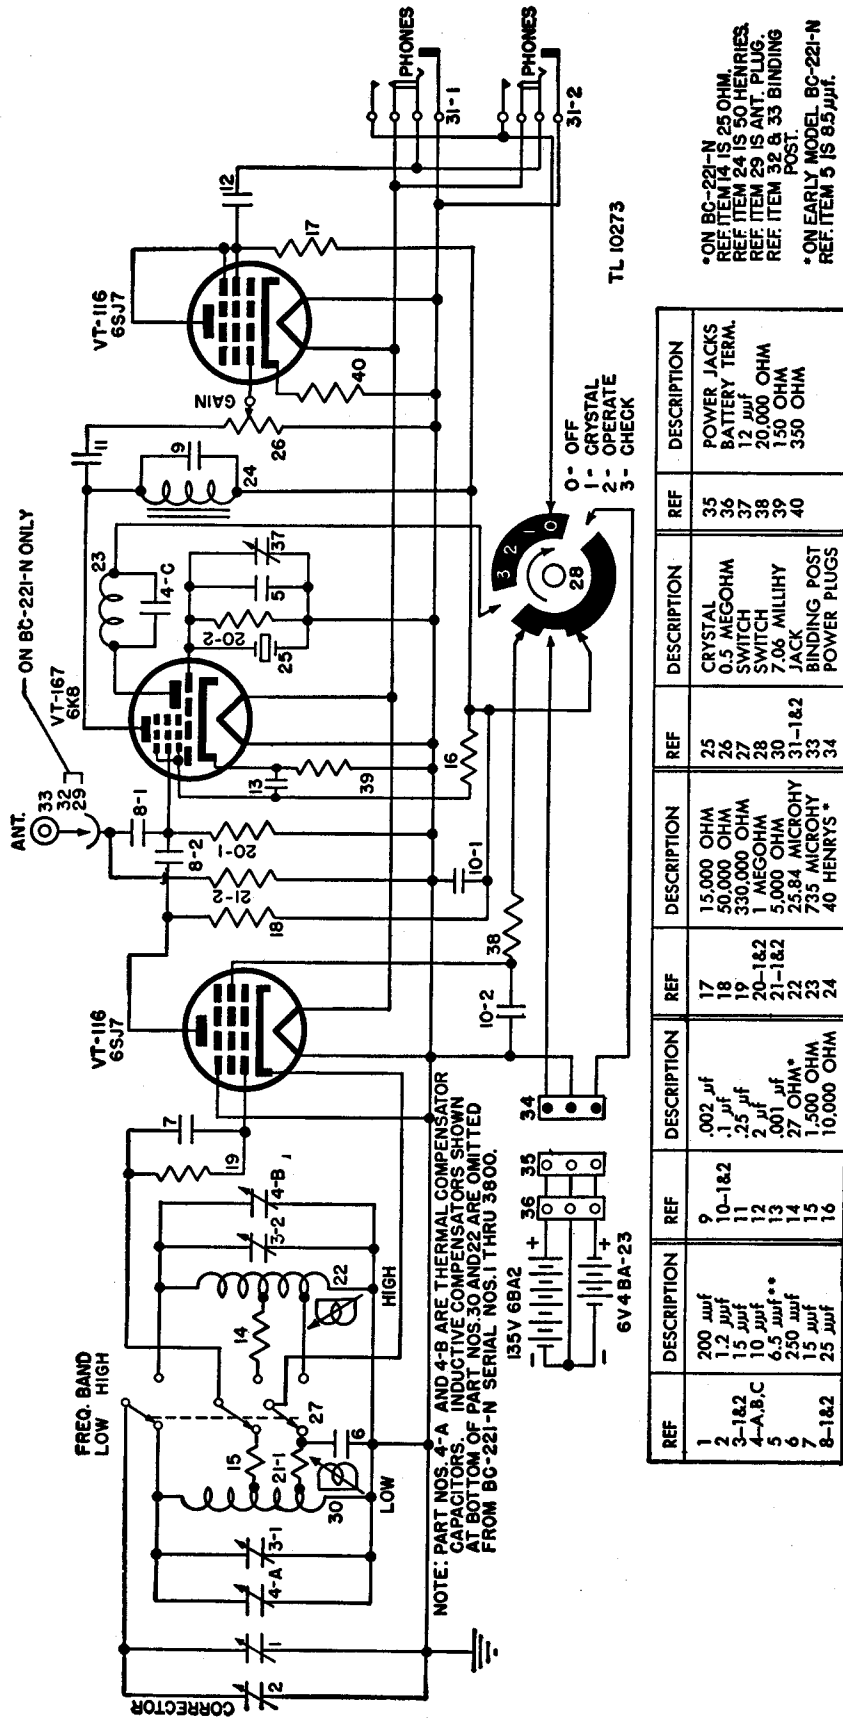

Figure 71. Frequency Meters BC-221-N and BC-221-AA, schematic diagram.
quency Meter BC-221-N, serial Nos. 1 through 3800, may not function satisfactorily in meters having serial Nos. 3801 and higher. Part Nos. 5 and 37 differ slightly in electrical characteristics. The schematic diagram (fig. 71) indicates that it is not necessary to show separate functional diagrams on the two types of meters since the main difference consists of the temperature compensating devices.
e. OSCILLATOR FUNCTION. (1) The variable frequency oscillator circuit is in operation at the CHECK and OPERATE positions of operation switch 28. (See fig. 71.)
(2) At the CHECK position, the output of oscillator Tube VT-116 (6SJ7) is applied to one of the grids of detector-converter Tube VT-167 (6K8), where it is mixed with the output frequency of the crystal circuit. The result is a frequency equal to the difference of the two and is used to adjust the frequency of the oscillator by means of the CORRECTOR control.
(3) At the OPERATE position, the variable frequency oscillator is in operation, while the crystal oscillator is not. If the antenna is in position, the frequency meter may be used to receive or send any frequency in its range; that is, it may be used as a radio receiver or transmitter.
206. Power Supply Circuit (fig. 71)